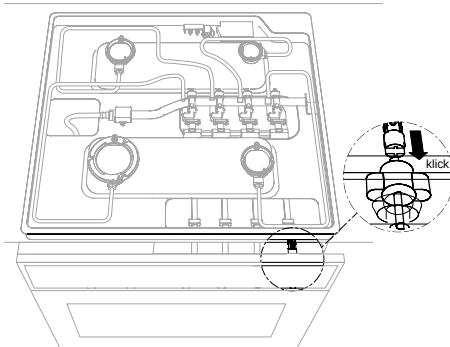

fig. 7
- Slide the cardan joints onto the oven's tap pins and snap them in place (fig. 7).